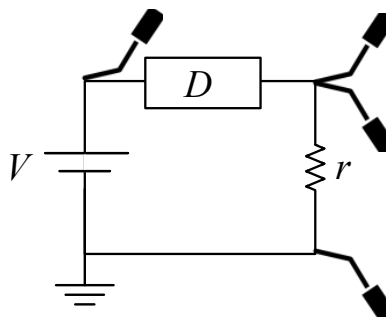

Figure 4: A test circuit for extracting the characteristic curve of a resistive element using multi-meter.
**Build the circuit shown in Fig. 4 on a breadboard, where  $r = 1 \text{ k}\Omega$  denotes a resistor allowing to measure the current indirectly.**
(b) Can the characteristic curve be extracted using the circuit of Fig. 4 and an oscilloscope?
yes, same as the previous question, if the value of the D element is equal to  $r$  resistor, the characteristic curve can be extracted using the circuit of Fig. 4 and an oscilloscope.